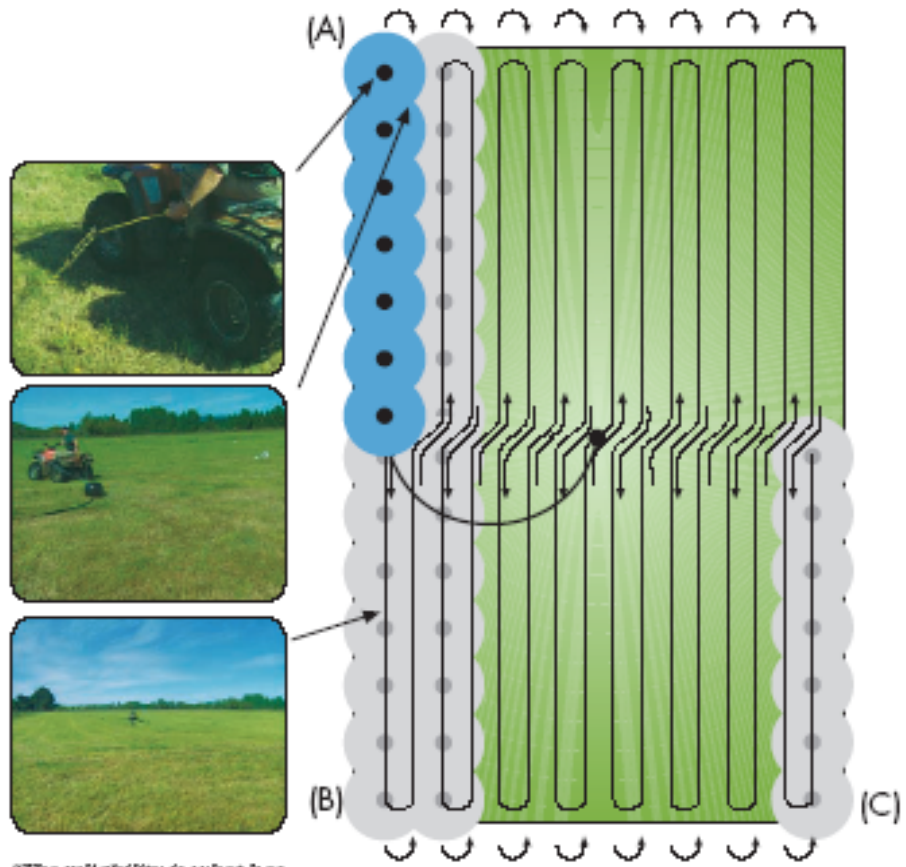

FIG 2
Go to the far end of the sprinkler line (point (A) in FIG 2). While still on your ATV slow down facing the direction you intend to go. In one easy movement, hook onto the sprinkler line, line yourself up with the marker at the other end of the field (point (B)) and drive to the other end. Unhook and repeat shifting process in the next paddock or field.